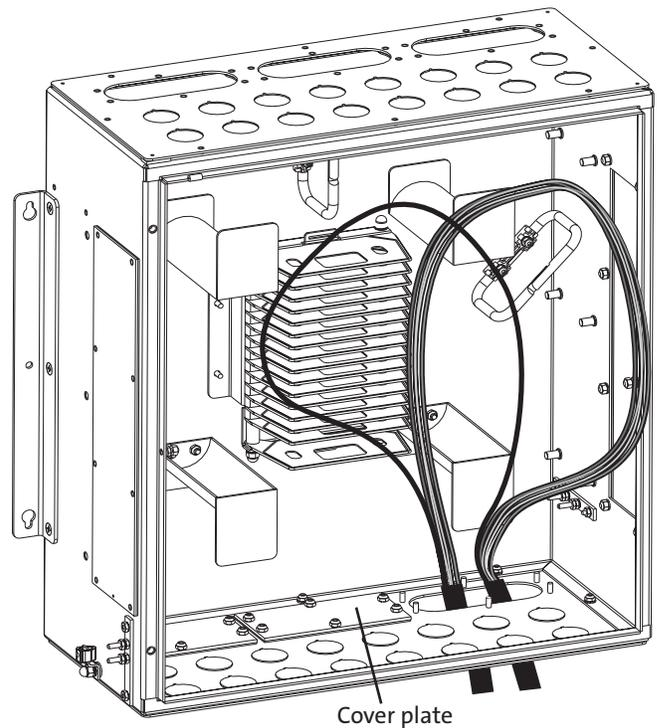

Figure 4
Step 2: Loop the buffer tubes carefully and feed them through the cable entry opening (Figure 4 - only one slack loop shown for clarity).